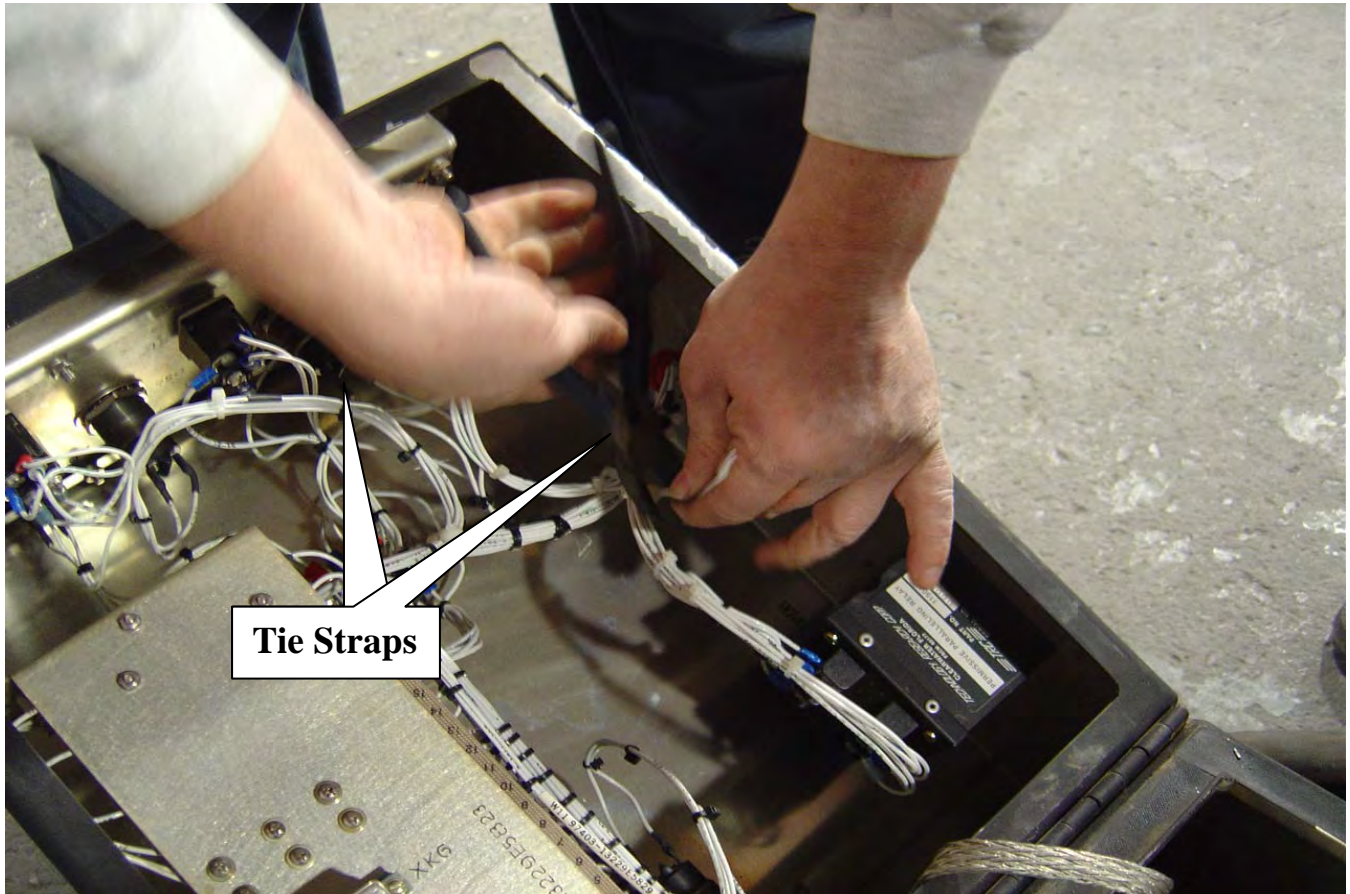

Fig 5
3. Pull the harness out from underneath the CCA bracket and away from the frame near the contactor control switch and wire-tie to the existing harness running down the middle of the box. Install tie down straps as shown in Figures 5 and 6.